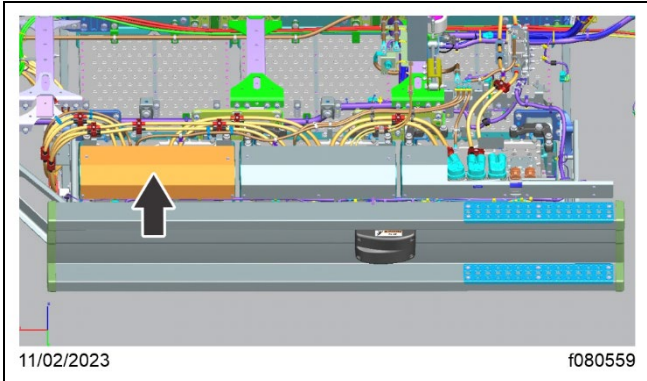
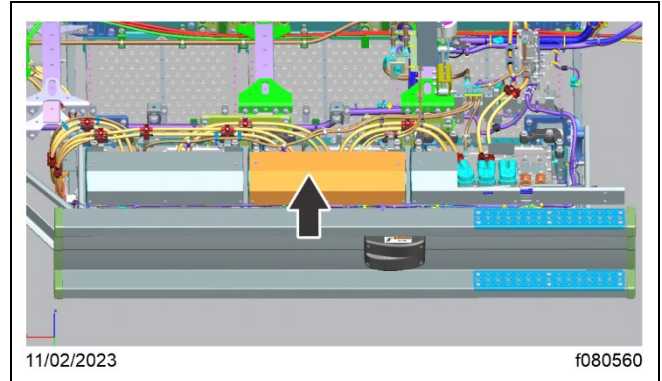

Fig. 2, Battery 3 Protective Plate
Fig. 3, Battery 2 Protective Plate
4. Remove the right-hand side battery covers. See Fig. 2 and Fig. 3.